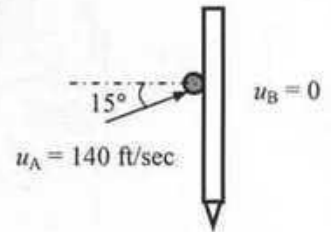

Fig. 10
12. Fig. 10 shows a cricket ball (weighing  $W_A = 0.30$  lb) hitting a stump (weighing  $W_B = 1.5$  lb, and initially at rest) with a velocity of  $u_A = 140$  ft/sec at an angle  $15^\circ$  with the horizontal.